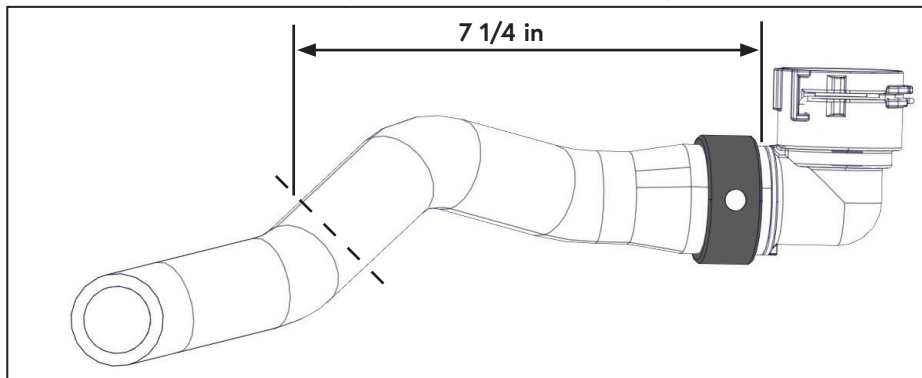

Figure 24 — Primary drain-back hose modification
- ☐ Measure and cut the primary coolant drain back hose (Figure 24).
- ☐ Carefully cut the cuff from the coolant drain back quick connect (Figure 24).